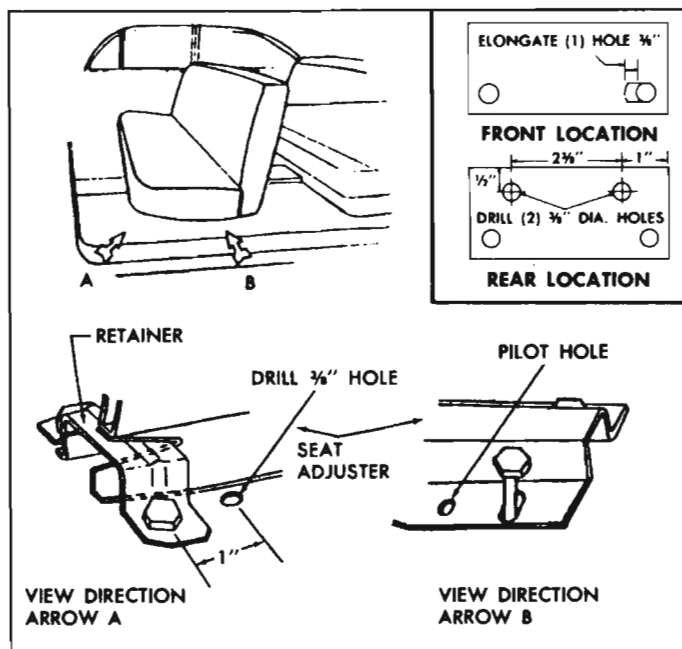

Fig. 10-75—Relocating Holes for Front Seat Repositioning
3. Locate and drill two (2) $\frac{3}{8}$ " holes in front seat front support 1" rearward of previous retainer attaching holes (fig. 10-75). Install retainers in new location using $\frac{5}{16}$ "-24 bolts, nuts and lockwashers.
4. Enlarge $\frac{1}{8}$ " pilot holes in seat adjuster located 1" forward of attaching holes at rear of each seat adjuster to $\frac{3}{8}$ " diameter (fig. 10-75).
The entire seat can be raised by placing $\frac{1}{2}$ " Spacers Pt. #475912 reworked as shown in insert Figure 10-75) under each seat adjuster front retainer and rear mounting, using $\frac{5}{16}$ "-24 x $1\frac{1}{4}$ " bolts to secure the seat in the raised position. Raising the seat will decrease the steering wheel-to-seat clearance from 5.5" to 4.98" or approximately $\frac{1}{2}$ ".